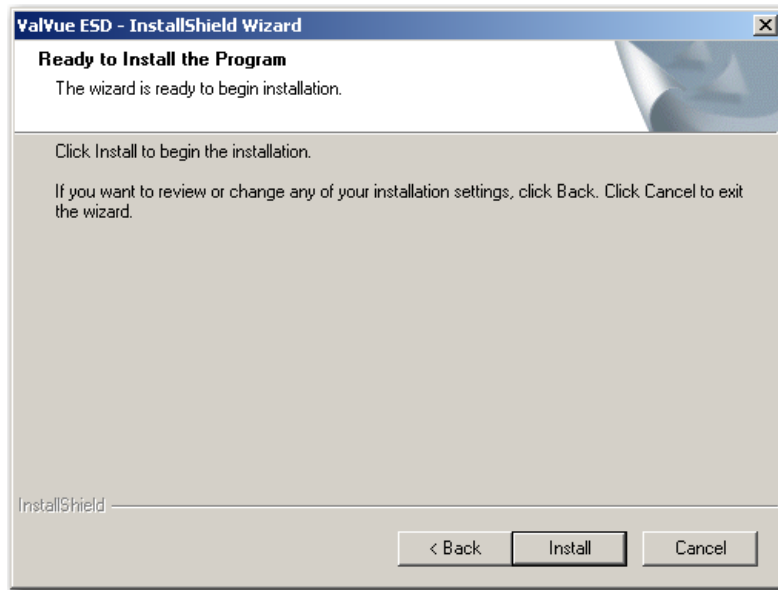

Figure 7 Ready to Install
6. Click **Next** and a screen appears (Figure 7).